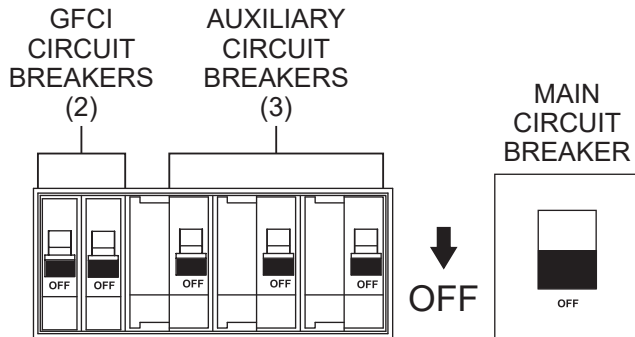

Figure 44. Main, Auxiliary, And GFCI Circuit Breakers (OFF)
1. Place the **main, auxiliary, and GFCI circuit breakers** (Figure 44) in the **OFF** position prior to starting the engine.